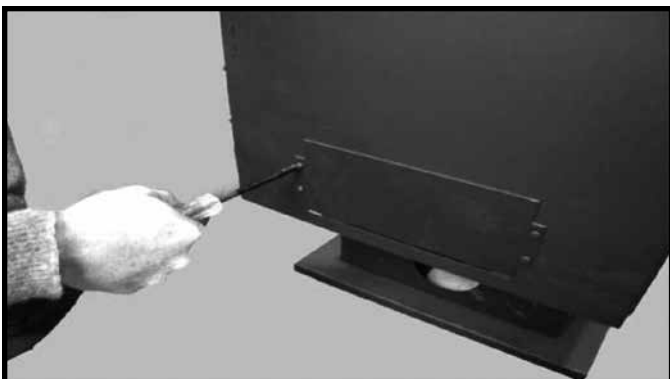

Figure 10: Remove the cover plate.
1. Remove the two screws and cover plate from the rear shield on the stove (Figure 10).